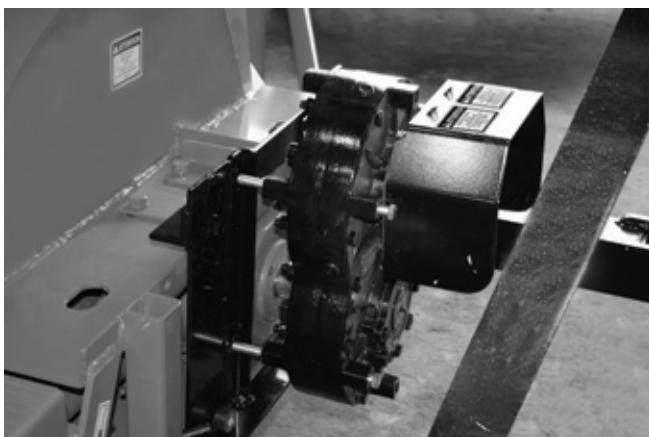

Figure 26
- 3) If your snowblower is equipped with the optional 1000 to 540 RPM reducer, install it on the gear box with the plate included (Fig. 26).